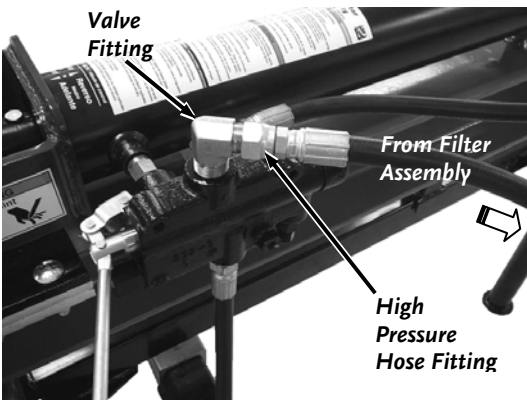

Figure 18
17. Attach the high-pressure hose from the filter assembly to the fitting on the side of the valve (**Figure 18**). Securely tighten the hose fitting with a 10-inch crescent wrench.